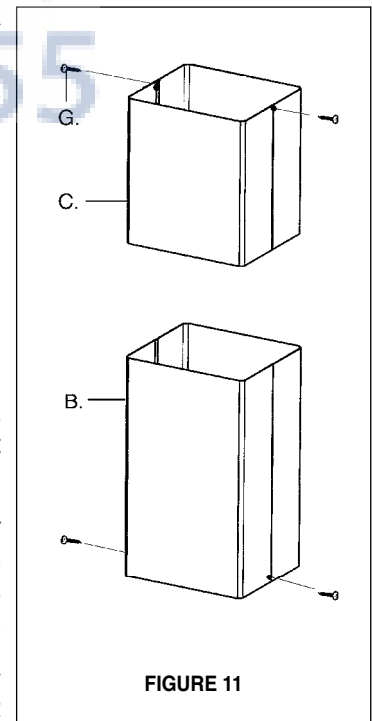

FIGURE 11
1. The UPPER CHIMNEY COVER (C in FIGURE 11) attaches using two screws provided (G in FIGURE 11). If using the High Ceiling Chimney Kit, use the UPPER CHIMNEY COVER supplied with the kit. Slide up and attach the UPPER CHIMNEY COVER.
3. The LOWER CHIMNEY COVER (B in FIGURE 11) attaches using two screws provided (G in FIGURE 11). Install the LOWER CHIMNEY COVER by sliding it up over the support and the UPPER CHIMNEY COVER.